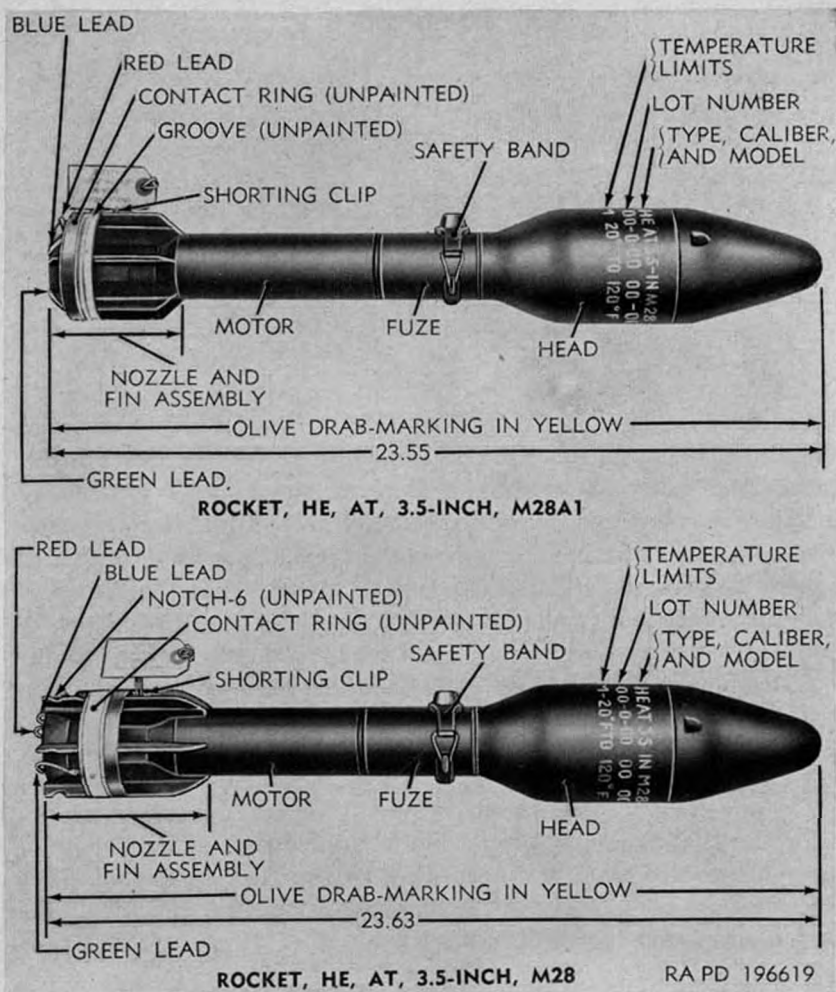

Figure 55. 3.5-Inch rockets M28 and M28A1.
Ammunition for the 3.5-inch rocket launchers M20, M20 modified, and M20B1 is issued in the form of complete rounds of fixed ammunition (figs. 55 and 56). The term "fixed," used in conjunction with ammunition, signifies that the propelling charge is fixed (not adjustable) and that the round is loaded into the launcher as a unit. The complete round consists of a rocket head, a fuze, and a rocket motor which contains the propellant and its igniter. A nozzle and fin assembly is rigidly attached to the rear of the motor. The fuze body, threaded at both ends, serves also as a coupling for the rocket head and motor.
- (2) Pull the blue lead (figs. 55 and 56) out of the expansion cone, straighten the end of the wire, pull the insulating tube off, and remove the safety band from the fuze.
- (3) Set the firing mechanism of the launcher at "SAFE" (par. 13) and insert the rocket in the launcher, being certain the rocket is fully seated so that the contactor latch blade engages the 360-degree groove in the support ring. On the rockets M28 and M29, a notch is provided in each of the six radial fins (fig. 55) to engage the latch. Refer to WARNING in paragraph 23*c*.